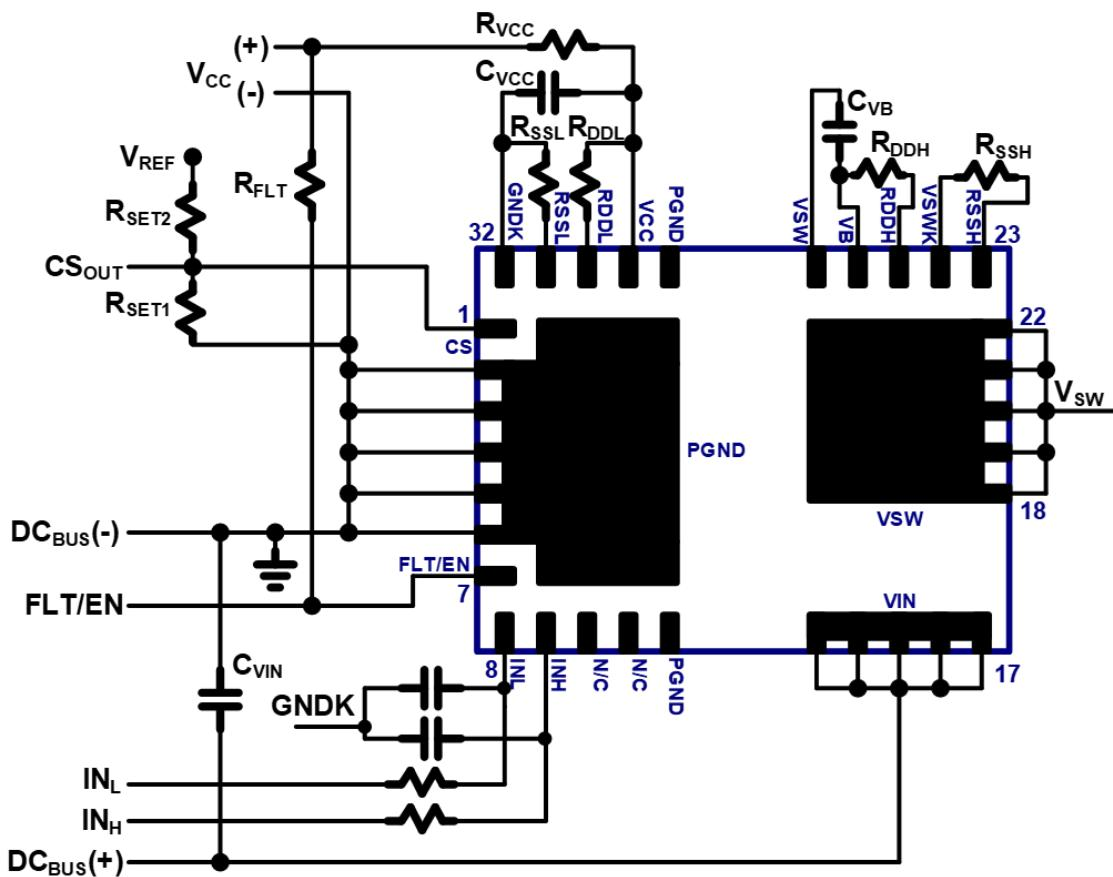

Fig. 23. IC connection diagram
The typical connection diagram for this GaN Half-Bridge IC is shown in Fig. 23. The IC pins include the drain of the high-side GaN power FET ( $V_{IN}$ ), the half-bridge mid-point switched node ( $V_{SW}$ ), the source of the low-side GaN power FET and IC GND ( $P_{GND}$ ), low-side IC supply ( $V_{CC}$ ), low-side turn-on dV/dt control ( $R_{DDL}$ ), low-side turn-off dV/dt control ( $R_{SSL}$ ), low-side referenced PWM inputs ( $IN_L$ ,  $IN_H$ ), low-side current sensing output (CS),  $\overline{FLT}/EN$  pin for enabling the device and internal fault detection, high-side supply ( $V_B$ ), high-side turn-on dV/dt control ( $R_{DDH}$ ), high-side turn-off dV/dt control ( $R_{SSH}$ ). The external low-side components around the IC include  $V_{CC}$  supply capacitor ( $C_{VCC}$ ) connected between  $V_{CC}$  pin and  $P_{GND}$ , turn-on dV/dt set resistor ( $R_{DDL}$ ) connected between  $V_{CC}$  pin and  $R_{DDL}$  pin, turn-off dV/dt set resistor ( $R_{SSL}$ ) connected between the  $R_{SSL}$  pin and the  $GNDK$  pin, current sense amplitude set resistor ( $R_{SET1,2}$ ) connected between CS pin,  $V_{REFADC}$  and  $P_{GND}$ , and the  $\overline{FLT}/EN$  pull-up resistor ( $R_{FLT}$ ) connected to  $V_{CC}$  for enabling the device and for internal fault detection. The external high-side components around the IC include  $V_B$  supply capacitor ( $C_{VB}$ ) connected between  $V_B$  pin and  $V_{SW}$ ,  $V_{DDH}$  supply capacitor ( $C_{VDDH}$ ) connected between  $V_{DDH}$  pin and  $V_{SW}$ , turn-on dV/dt set resistor ( $R_{DDH}$ ) connected between  $V_B$  pin and  $R_{DDH}$  pin, turn-off dV/dt set resistor ( $R_{SSH}$ ) connected between the  $R_{SSH}$  pin and the  $V_{SWK}$  pin. The high side  $V_B$  bypass capacitor must be chosen carefully to accommodate various system considerations such as high side wake up time and high side hold up time.